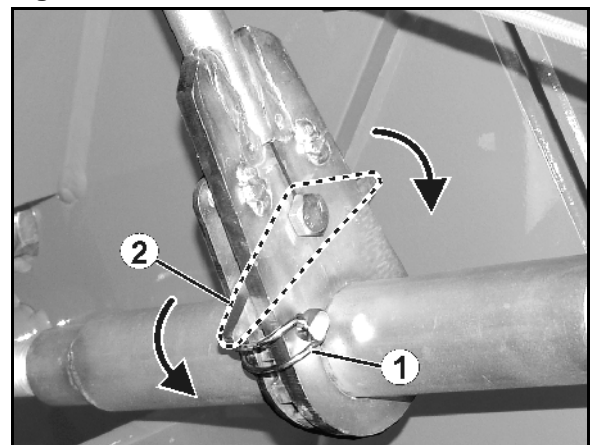

Fig. 40
2. Remove clip pin (Fig. 40/1).
3. Engage swivel lever (Fig. 40/2) according to desired direction of rotation.